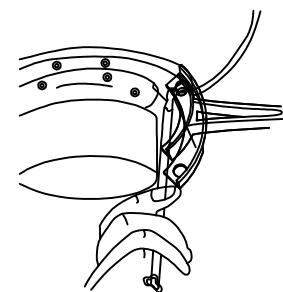

Figure 2
- 2) Fix the fixed support blades on the motor in turn..(Figure 2)